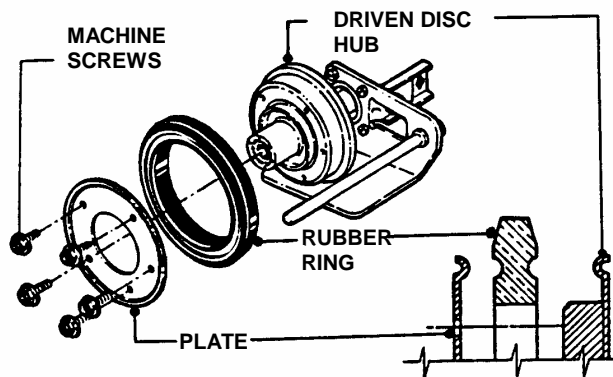

FIGURE 4.13
3. Remove the five machine screws and plate which secure the rubber driven disc ring to the driven disc hub. See Figure 4.13.